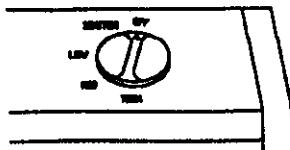

Figure 18 - Control Knob
3. Push in control knob slightly and turn clockwise ↻ to the OFF position. (see Figure 18).
5. Push in and turn control knob counterclockwise ↻ to PILOT position. Press in control knob for five (5) seconds.